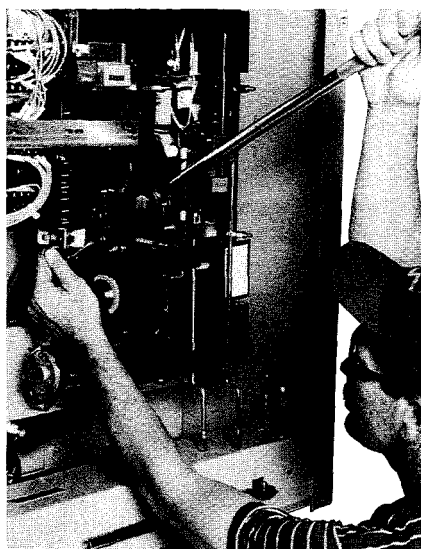
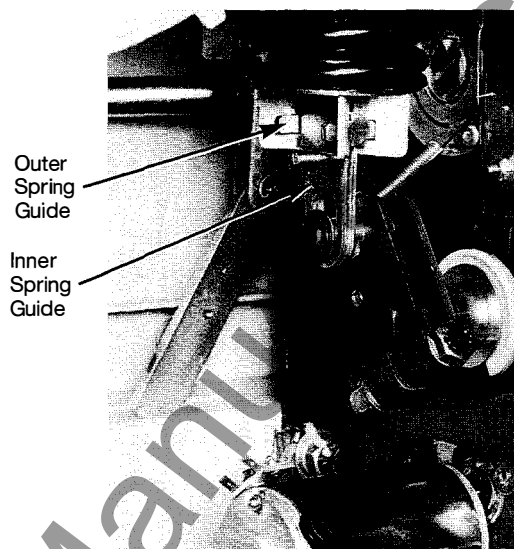

Figure 28: Manually charging while inserting blocking pin
Figure 29: Inserted blocking pin
4. While applying force to the charging handle, insert a 7/32" diameter blocking pin (approximately 3/4"-1" long) through this hole on each closing spring (figure 28). Slowly release the charging handle, letting the spring pressure rest on the inserted pin (figure 29). This releases the pressure from the upper and lower mounting pins.